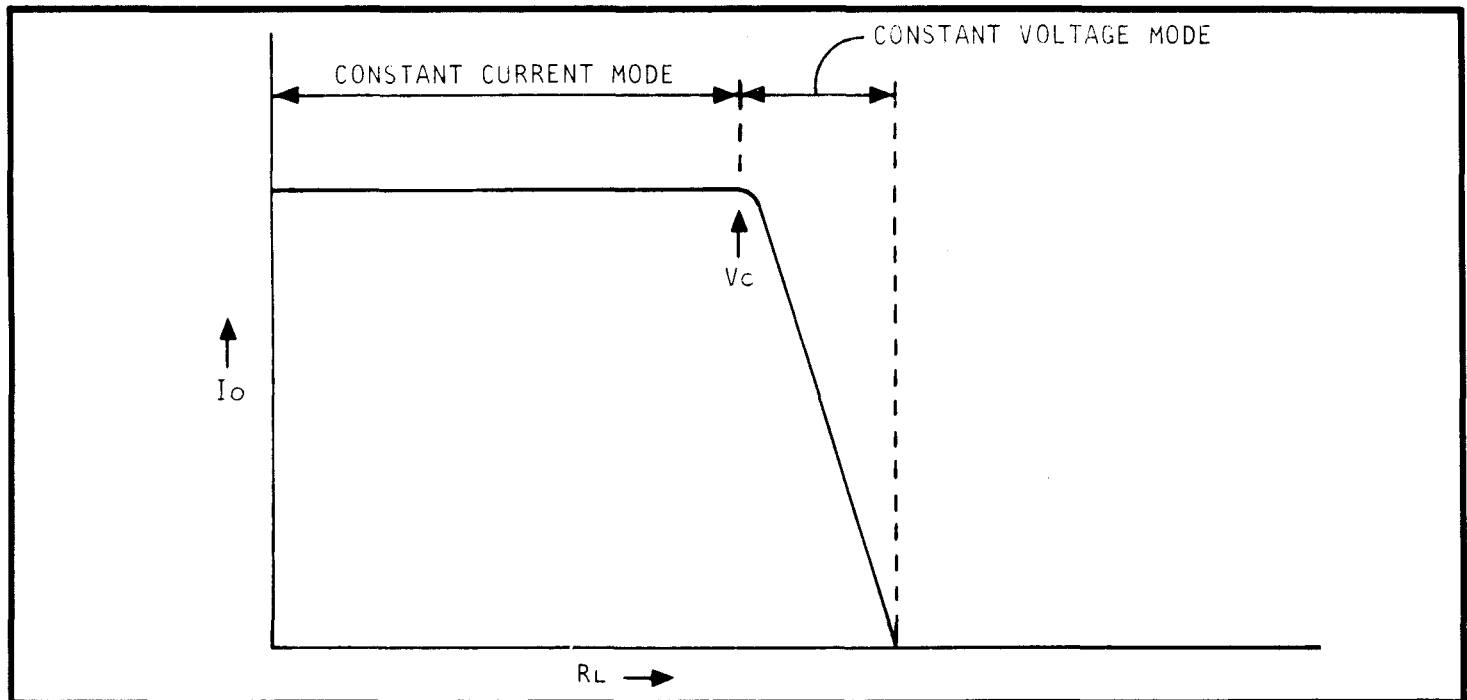

FIGURE 2-8. Voltage Limit Characteristics.
c. Constant Voltage Mode. The Model 725 can be adjusted for a compliance voltage from 10 to 90 volts. The voltage limiting will occur if the load resistance is such that  $I_0 R_L = V_C$ . The instrument will automatically switch into a constant voltage mode (the LIMIT lamp will be lighted) such that the output voltage will not exceed the compliance setting. If the Model 725 is used as a current sink, an output voltage greater than 100 could be developed regardless of the compliance setting. The voltage limiting characteristic can be seen in Figure 2-8.